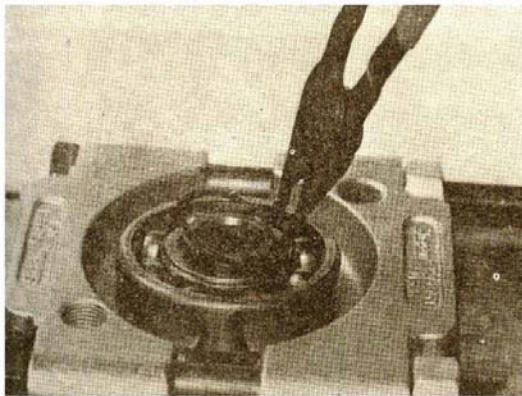

Fig. 8-4, Remove the retaining ring
- f. Remove the retaining ring (3) retaining the outer bearing (4) from the shaft, Fig. 8-4. Support the outer bearing with a 3375326 Bearing Separator and press the shaft (5) from the bearing.
- g. Use a 3375326 Bearing Separator supporting the inner bearing (6) to press the shaft from the inner bearing.